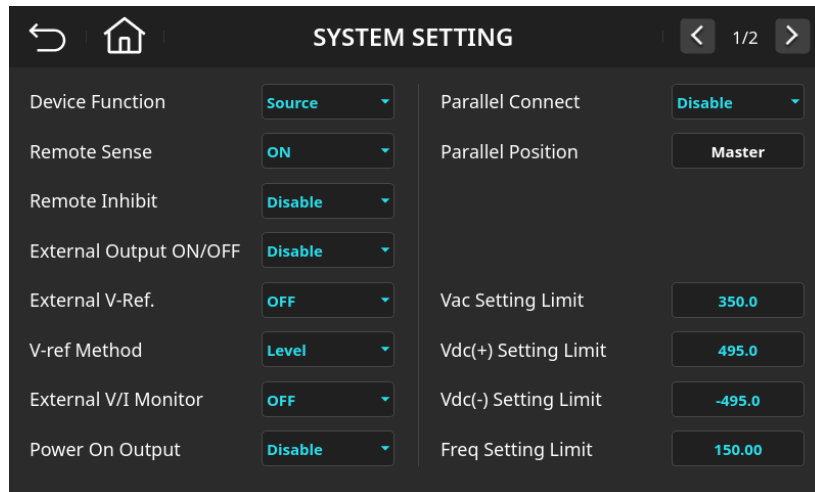

Figure 6-3 System Function Setting Page (Remote Sense = ON)
2. Select “ON” to enable the Remote Sense function, as shown in Figure 6-3.